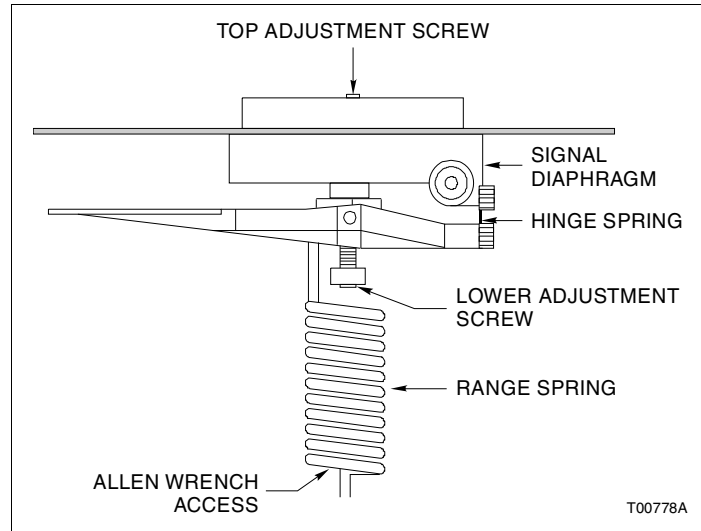
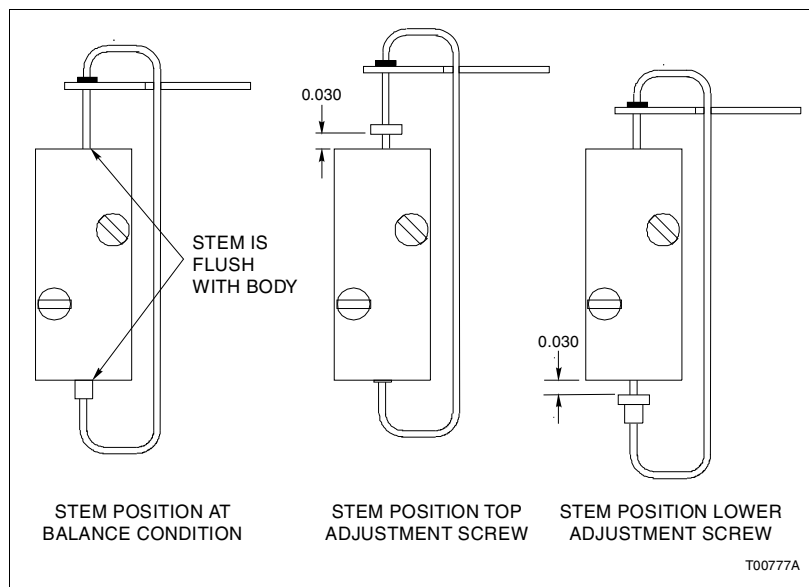

Figure 8-5. Stroke Adjustment Screw Locations
Figure 8-6. Pilot Valve Measurement for Maximum Speed
When the valve stem is in the balance position, as shown in Figure 8-6, the stem is flush with both ends of the valve body. There are two adjustment screws to adjust. Use the following procedure to check and adjust the travel of the valve stem.
4. Using the $\frac{3}{32}$ -inch Allen wrench, adjust the top adjustment screw (Fig. 8-5) appropriately until the measurement matches the value shown in Figure 8-6. Figure 8-6 also shows the way the measurement is taken.
6. Use the long (at least 5 inch) $\frac{3}{32}$ -inch Allen wrench to adjust the lower stroke adjustment screw (Fig. 8-5). Adjust the screw until the measurement matches the value shown in Figure 8-6